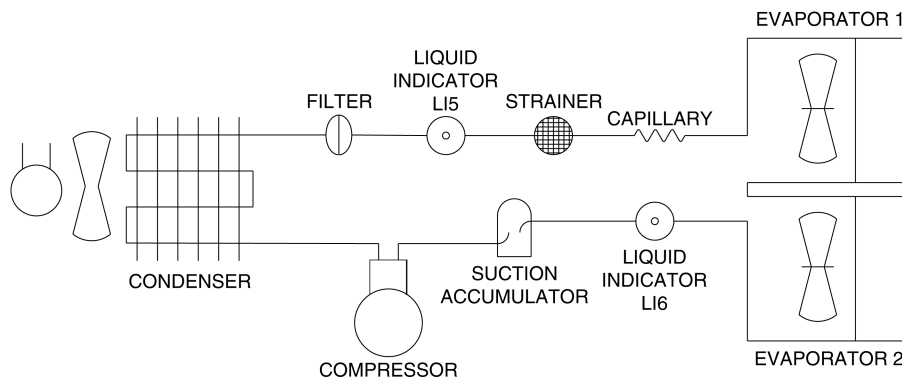
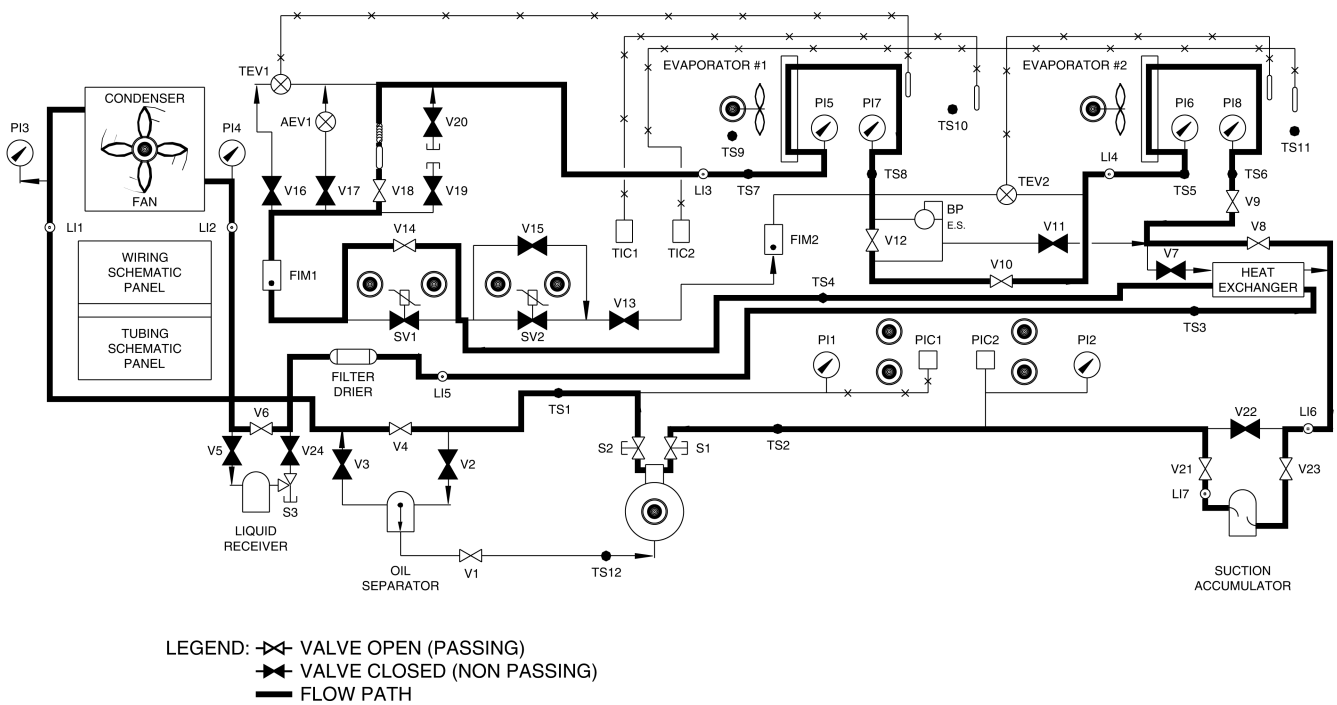

Figure 1-6. Tubing schematic panel.
Figure 1-7. Valve configuration.
To connect a refrigeration system, a tubing schematic diagram, as shown in Figure 1-6, is required. This diagram shows the devices required to connect the system and their locations within the system. This diagram does not show which manual valves should be opened or closed. It is therefore necessary for you to understand how to follow this diagram.
The schematic panel (tubing section) on the trainer (Figure 1-7) identifies the valves which must be closed to set up the refrigeration system shown in Figure 1-6. The valves that are darkened in Figure 1-7 must be closed and the valves that are white must be open. Follow through the schematic panel in Figure 1-7 with the schematic diagram in Figure 1-6.
- ☐ 1. Compare the tubing schematic diagram of Figure 1-6 with the schematic panel (tubing section) on the trainer.
- 3. The following is a list of the trainer's manual valves which must be opened and closed to form the system shown in Figure 1-6.
Follow through the schematics in Figures 1-6 and 1-7 as you open and close the valves.